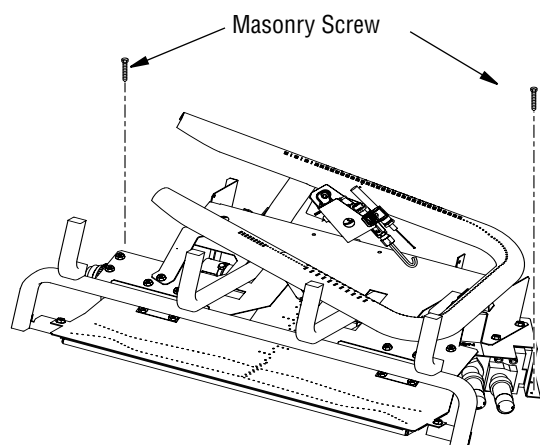

Figure 10 - Attaching Base to Fireplace Floor (Model Shown May Vary from Actual Model)
3. Mark screw locations through holes in front panel of base (*see Figure 10, Page 8*). If installing in a brick-bottom fireplace, mark screw locations in mortar joint of bricks.
6. Attach base, through holes in back side panels of base, to fireplace floor using masonry screws provided in hardware package (*see Figure 10, Page 8*).